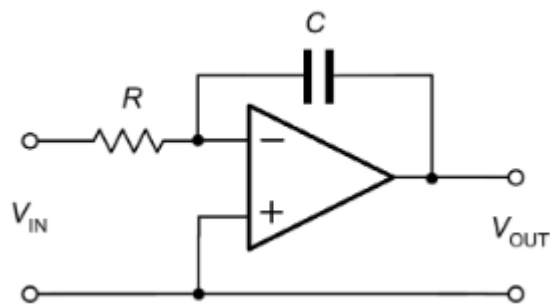

Fig 2.10. An integrator
- An integrator using an operational amplifier is shown in Fig. 2.10.